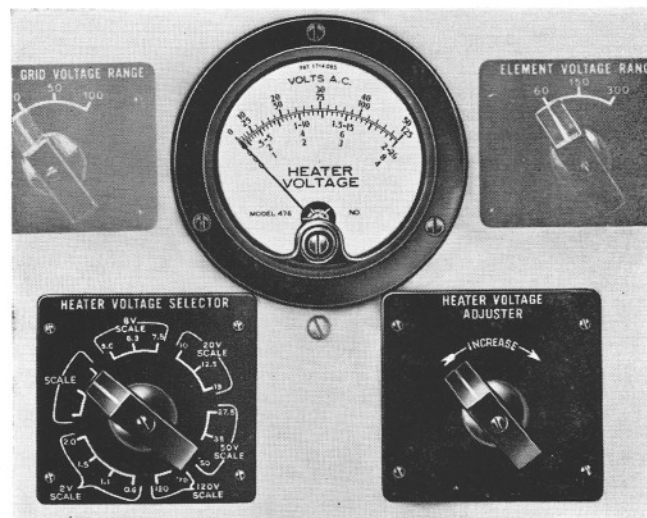

FIG. 2
**HEATER VOLTMETER:** Filament potentials from 0.6 to 120 volts may be selected by means of a rotary switch and potentiometer. These potentials are measured on a multirange a-c voltmeter (Refer to Fig. 2).